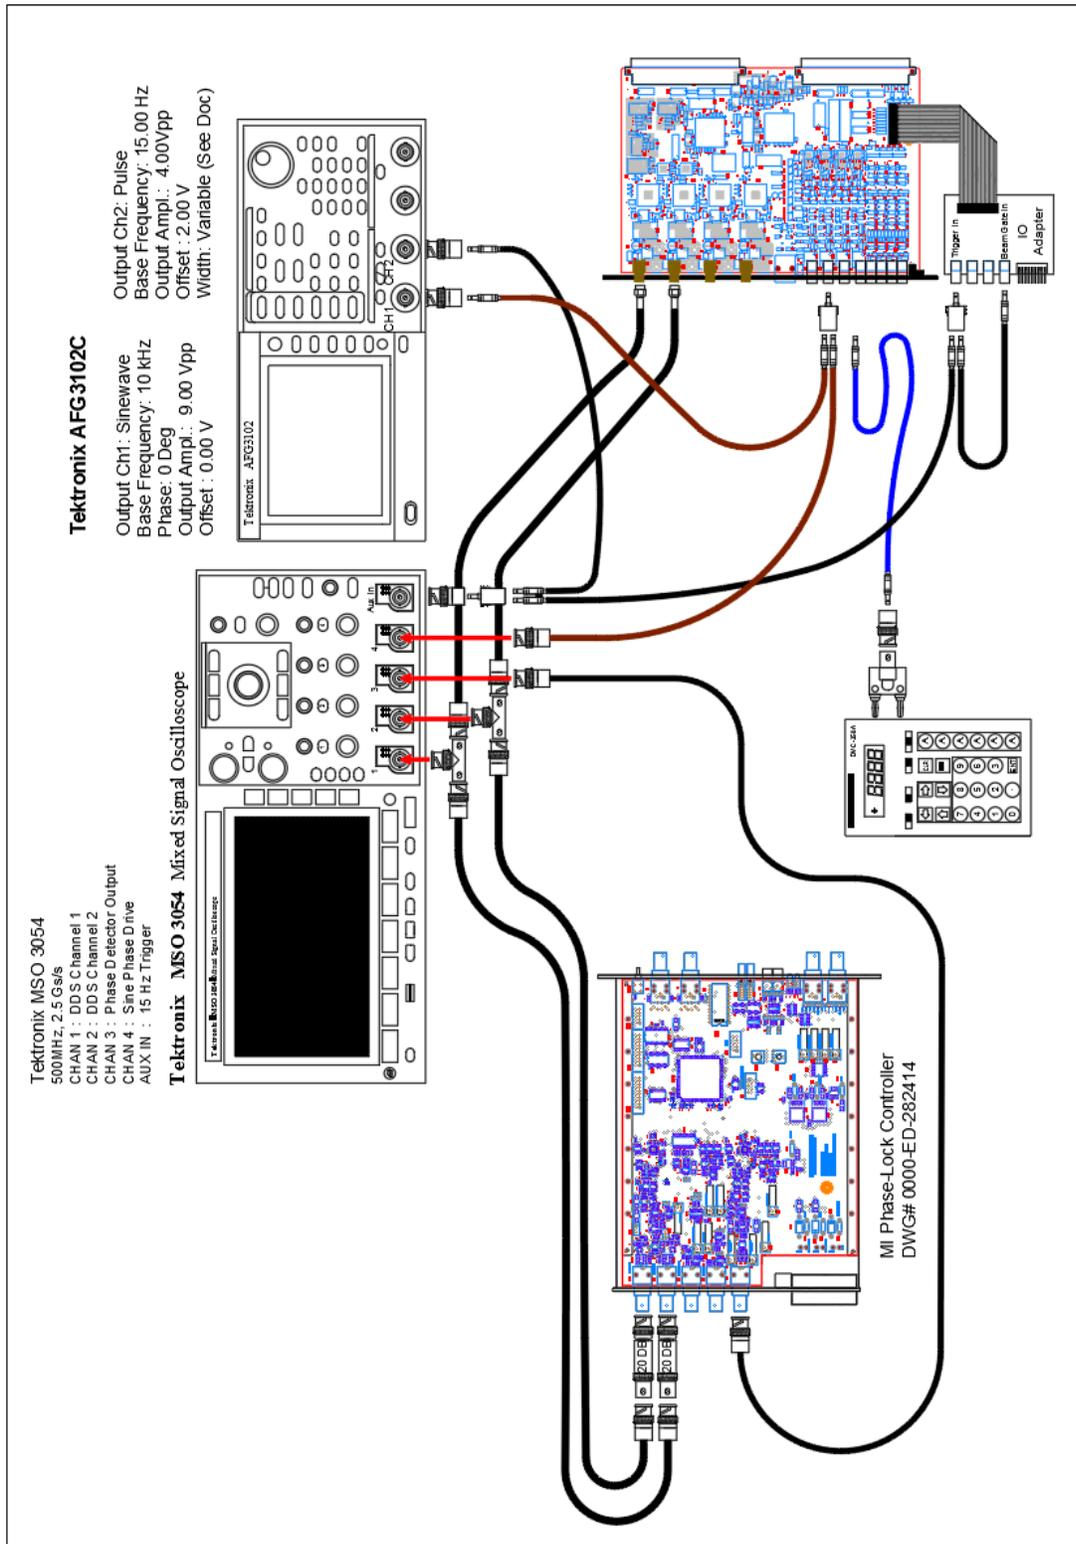

Figure X.1 Phase Drive measurement setup.
The Radial Position Phase Drive feedback will shift the phase of the RF out of DDS channels 2 and 3 +/- 90 Degrees given a +/-10 Volt signal at analog input IN 2. The response of RF to this signal can be measured using the setup in Figure X.1.
1. With the setup in Figure X.1, the sinusoidal phase drive feedback from the signal generator (red cable) will provide a signal that swings +/- 9V since we do not provide the 50 Ohm termination expected by the signal generator.